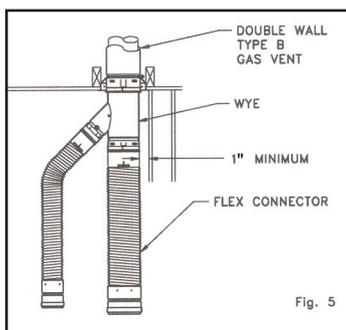
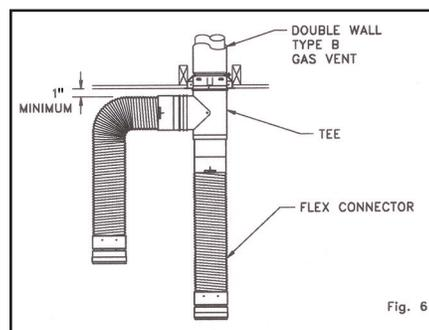

Fig. 5
Fig. 6
1. If more than one appliance is connected to a common vent, a tee or wye may be used (see Figure 5 and Figure 6).